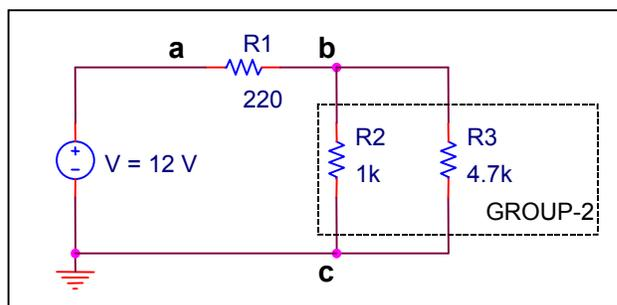

Figure 1.12 Resistor circuit diagram
3. **[2 MARKS]** Calculate by hand the equivalent resistance of Group-2 (R2||R3) shown in Figure 1.12 in section 1 of the Lab Measurements Sheet. Record the calculated value in the column labeled “Theoretical R Values” in Table 1.1 of the Lab Measurements Sheet. Show your calculations.
1. Construct the circuit of Figure 1.12 on your breadboard. Try to layout the actual circuit as close as possible to the same placement as appears on the schematic diagram.
- 3.1 Measure the resistance of resistor R1 and Group-2 (R2||R3) as shown in Figure 1.12 using the digital meter and the following procedure:
- Connect the circuit of Figure 1.12 and turn the power supply ON.
Circuit of Figure 1.12 connected correctly
0	Circuit of Figure 1.12 connected correctly.